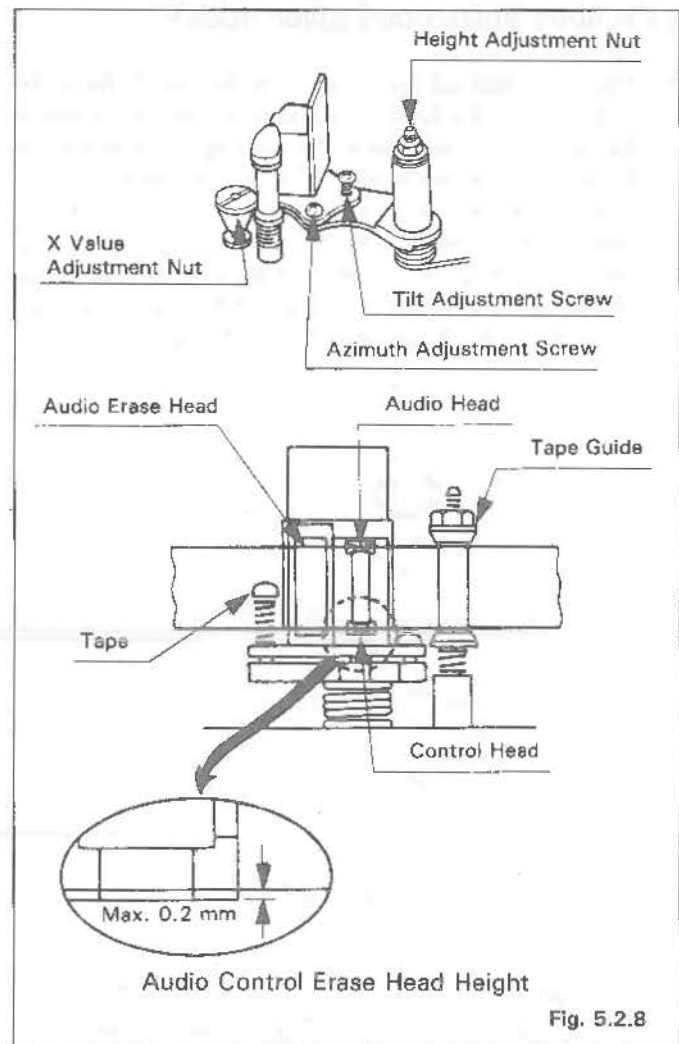

Fig. 5.2.8
2. Adjust the height of the edge of the audio track on the audio control erase head, using the Height Adjustment Nut and the Tilt Adjustment Screw, so that the tape transport is smooth at the take-up tape guide. Align the audio control erase head height. (Refer to Fig. 5.2.8) Do not turn the Tilt Adjustment Screw more than  $90^\circ$ .